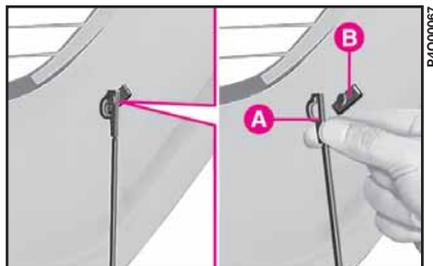

fig. 67
1) Remove the rear window shelf by releasing the two tie rod tips **A**-fig. 67 from their housings **B**.
**When refitting the rear window shelf, fasten the two side tie-rods fig. 67 passing them on the outside of the struts.**